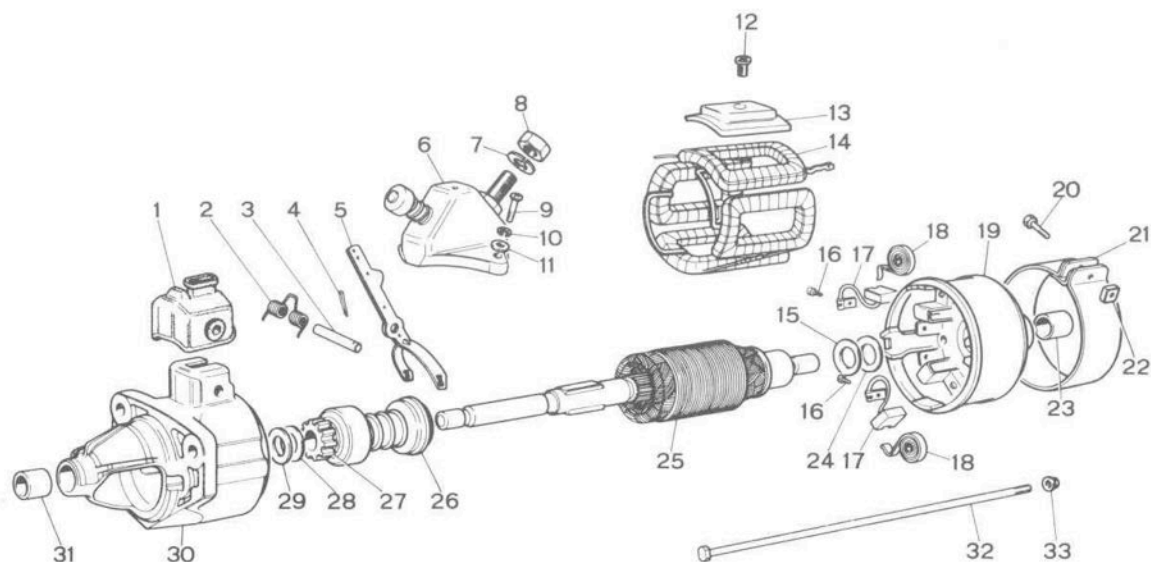

FIG 11:4 Components of the starter motor. The yoke or body is not shown
**Key to Fig 11:4** 1 Rubber boot 2 Spring 3 Pin 4 Splitpin 5 Lever 6 Switch 7 Lockwasher 8 Cable nut